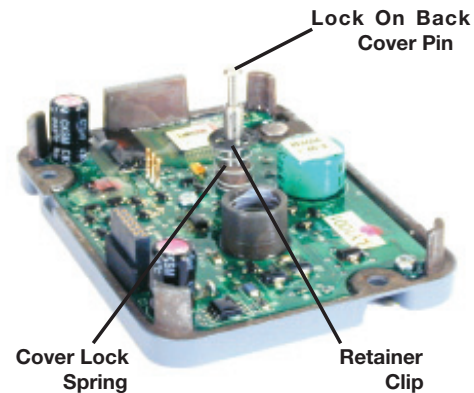

Figure 32 - Back Cover Assembly
3. Install the cover lock spring and retainer clip onto the cover lock pin. The “fingers” of the retainer clip should be angled away from the cover lock spring, and the retainer clip must be seated in the groove of the cover lock pin. (See Figure 32.)